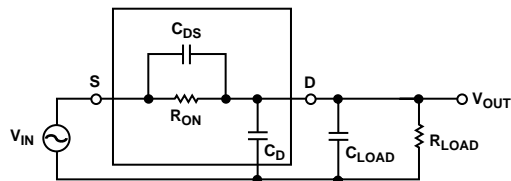

Figure 8. Switch Represented by Equivalent Parasitic Components
Figure 8 illustrates the parasitic components that affect the ac performance of CMOS switches (the switch is shown surrounded by a box). Additional external capacitances will further degrade some performance. These capacitances affect feedthrough, crosstalk and system bandwidth.
The transfer function that describes the equivalent diagram of the switch (Figure 8) is of the form (A)s shown below.